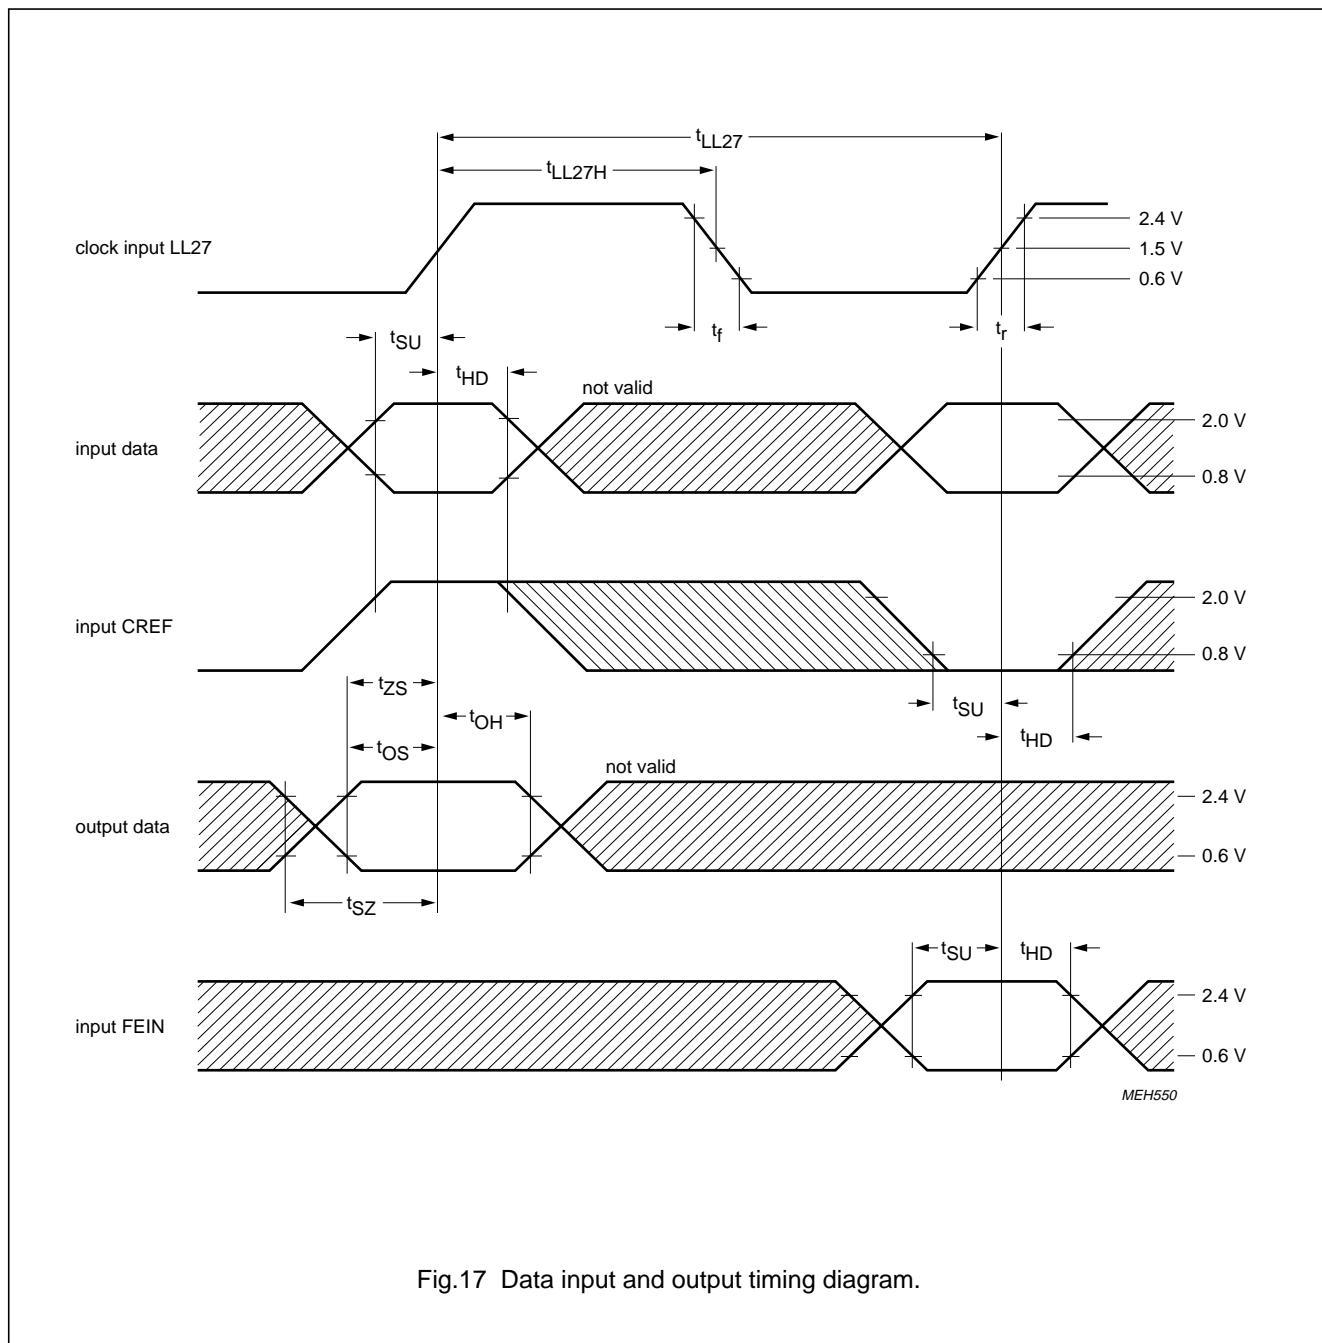

Fig.17 Data input and output timing diagram.
| $t_{SU.DAT}$ | input data set-up time      | Fig.17              | 11   | – | –            | ns      |
**Table 4** High-impedance control for YUV-bus (Fig.17)